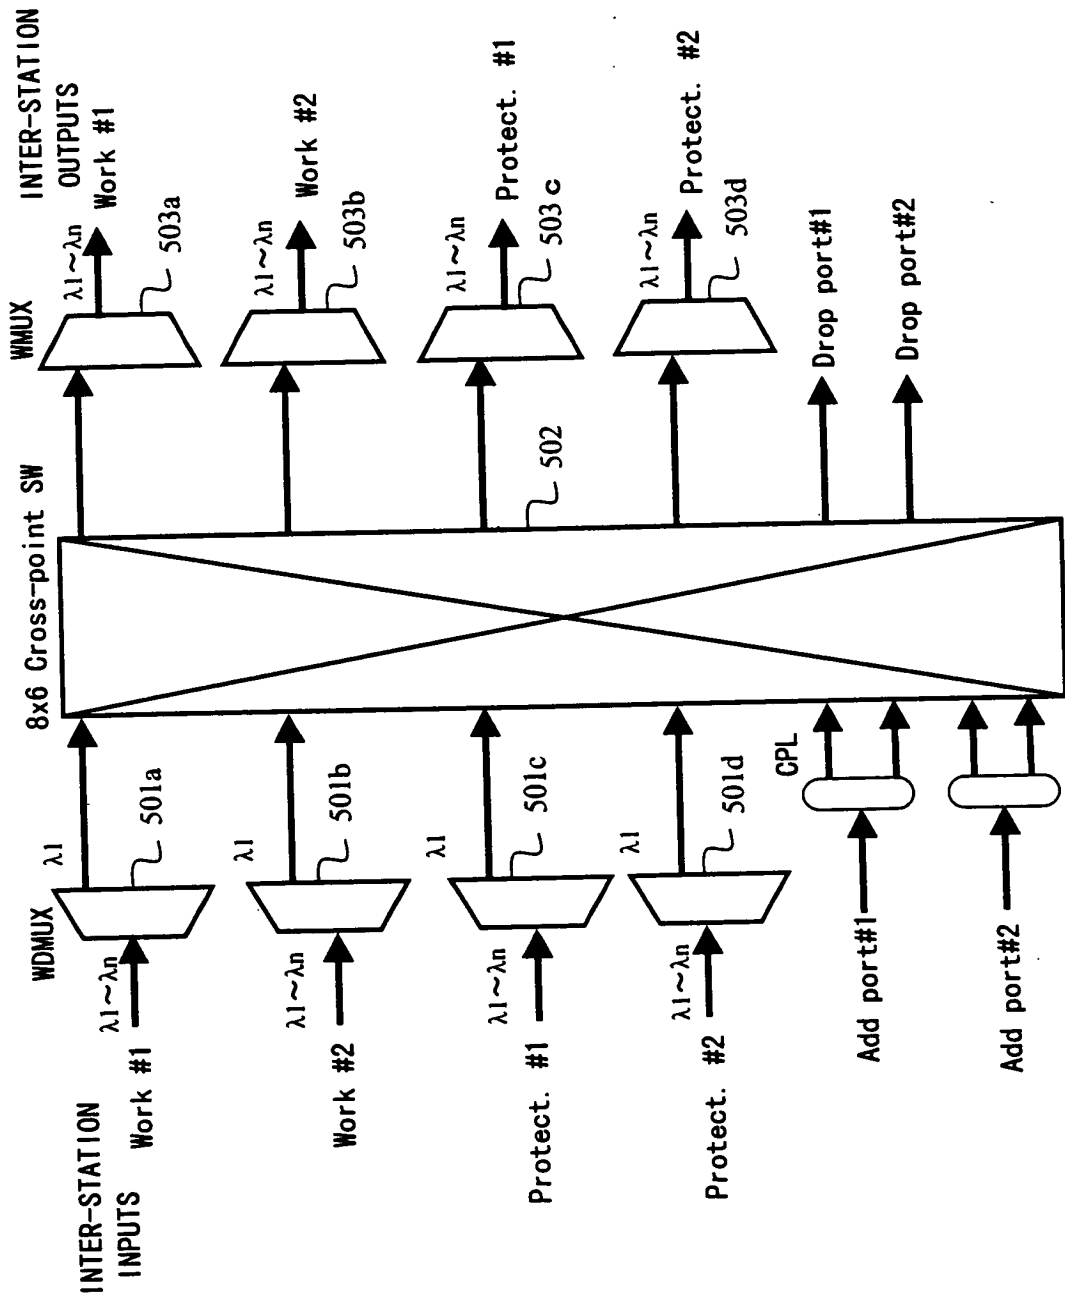

FIG. 1
FIG. 1 is a schematic diagram of a cross-point switch system. The system includes an 8x6 Cross-point SW (502) which is a central switching element. It is connected to four WDMUX (501a, 501b, 501c, 501d) units on the left and four WMUX (503a, 503b, 503c, 503d) units on the right. The WDMUX units receive INTER-STATION INPUTS (Work #1, Work #2, Protect. #1, Protect. #2) and output signals to the cross-point switch. The WMUX units receive signals from the cross-point switch and output INTER-STATION OUTPUTS (Work #1, Work #2, Protect. #1, Protect. #2). Additionally, the system includes two Add ports (Add port #1, Add port #2) and two Drop ports (Drop port #1, Drop port #2) connected to the cross-point switch via CPL (Circulator) units. The diagram illustrates the flow of signals through the cross-point switch and the associated WDMUX and WMUX units.